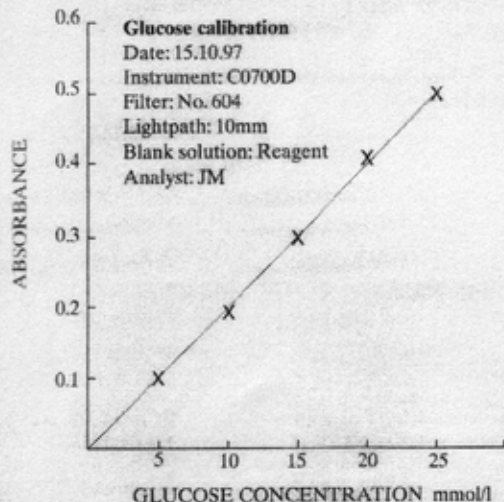

Fig. 4.22 Example of a calibration graph used to calibrate a glucose test method.
- 1 Take a sheet of graph paper and rule the vertical axis and the horizontal axis. Mark the vertical axis *Absorbance*. Mark the horizontal axis *Concentration* and give the units of measurement (see Fig. 4.22).
- 3 Test each standard following the specified method. Plot the absorbance of each standard solution against its concentration, marking each point with a small neat cross (see Fig. 4.22).